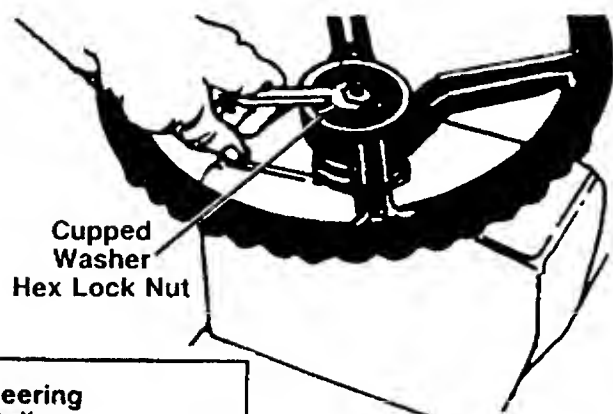

FIGURE 4.
3. Attach one end of steering bellow to the steering wheel as shown in figure 4, inset.
6. Place the washer with the cupped side down over the steering shaft. Secure with 5/16" hex lock nut. See figure 4.